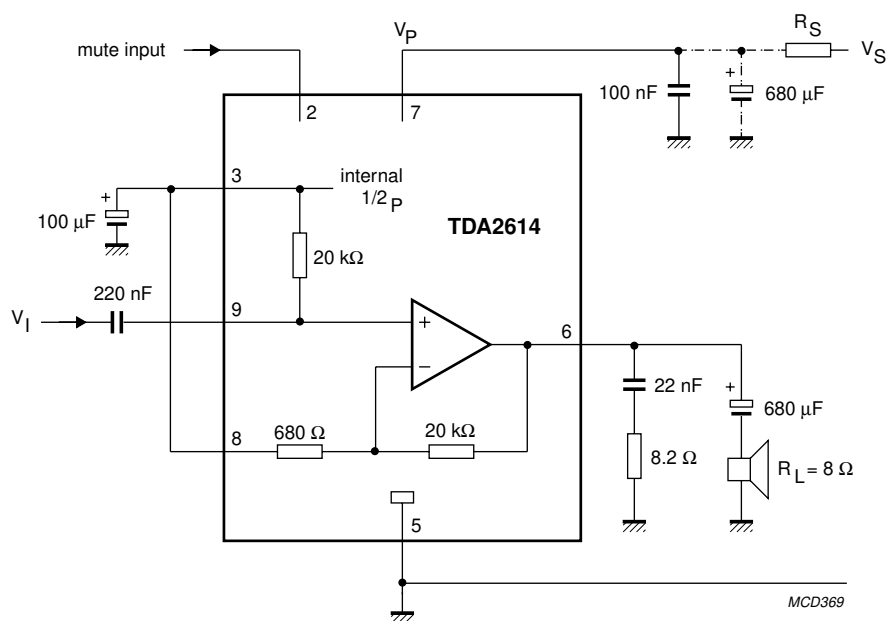

Fig.5 Test and application circuit with asymmetrical power supply.
1. $V_P = 24$ V; $R_L = 8$ Ω ; $T_{amb} = 25$ °C; $f = 1$ kHz; asymmetrical power supply $I_{MUTE} < 30$ μ A. See Fig.5
5. $V_P = 8$ V; $R_L = 8$ Ω ; $T_{amb} = 25$ °C; $f = 1$ kHz; asymmetrical power supply. See Fig.5